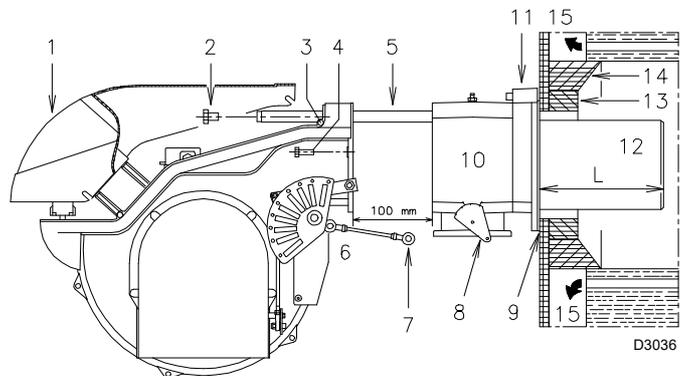
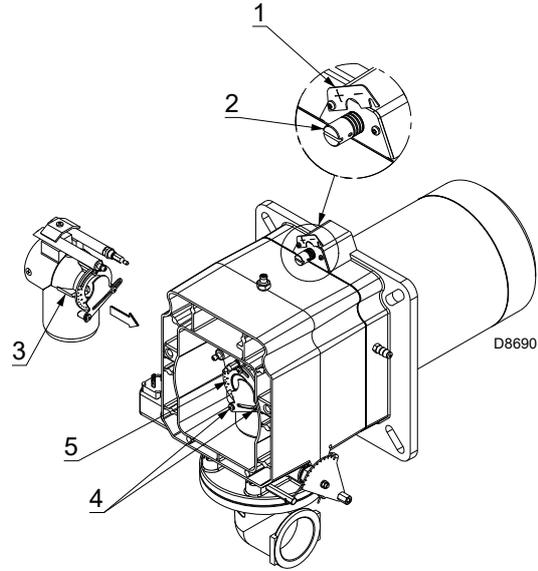
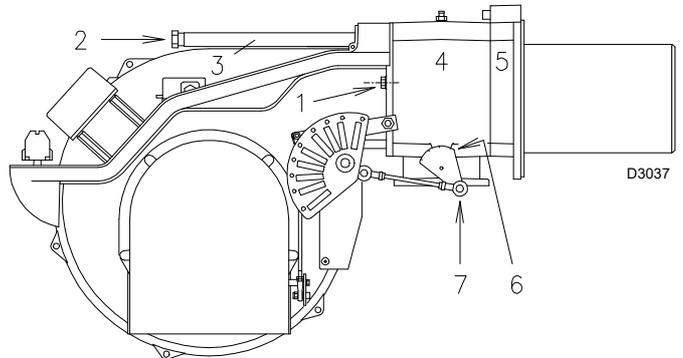

Fig. 12
Fig. 16
Fig. 17
For boilers with a water-cooled front piece, a refractory lining 13)-14)(Fig. 12) is not necessary, unless expressly requested by the boiler manufacturer.
- Separate the combustion head from the rest of the burner (Fig. 12):
At this point of the installation, the combustion head is fixed to the boiler as shown in Fig. 12.
- rotate the screw 2)(Fig. 16) until the notch you have found corresponds with the front surface 1) of the flange.
To facilitate the adjustment, loosen the screw 3)(Fig. 16); adjust, then lock in place.
- loosen the screws 4) and rotate the ring nut 5)(Fig. 16) until the notch you have found corresponds with the indicator 3);
Once you have finished setting up the head, refit the burner to the slide bars 3)(Fig. 17) at approximately 100 mm from the sleeve 4)(Fig. 17) - burner positioned as shown in Fig. 12 - insert the flame detection probe cable and the ignition electrode cable and then slide the burner up to the sleeve so that it is positioned as shown in Fig. 16.
Refit screws 2) on slide bars 3)(Fig. 17). Secure the burner to the sleeve by tightening screw 1)(Fig. 17). Reconnect the articulation 7) to the graduated sector 6)(Fig. 17).